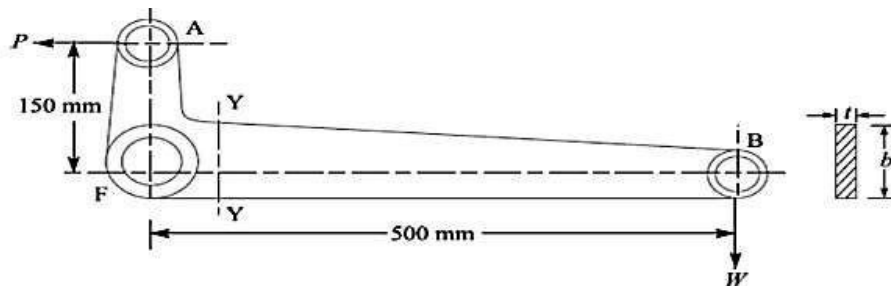

Figure.3.1
5. A right angle bell crank lever is shown in Fig. 3.1 The load $W = 4.5$ kN. The lever consists of forged steel material and a pin at the fulcrum. Take the following permissible stress for the pin and lever material. Safe stress in tension = 75 MPa, Safe stress in shear = 60 MPa, Safe bearing pressure on pin = 10 N/mm². The length of fulcrum pin is 1.25 times the diameter of fulcrum pin. Calculate the following: